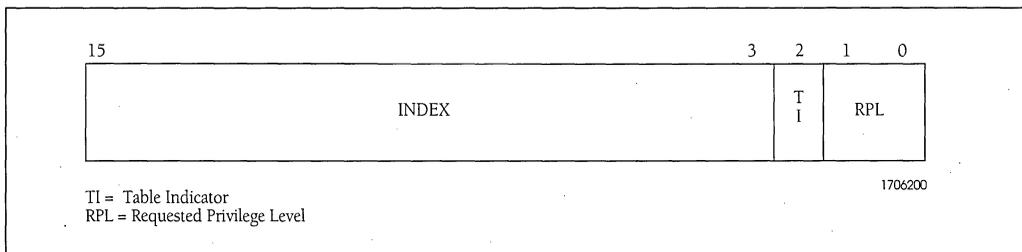

Figure 2-3. Segment Selector
In protected mode, a segment register holds a **segment selector** containing a 13-bit index, a table indicator (TI) bit, and a two-bit requested privilege level (RPL) field as shown in Figure 2-3.